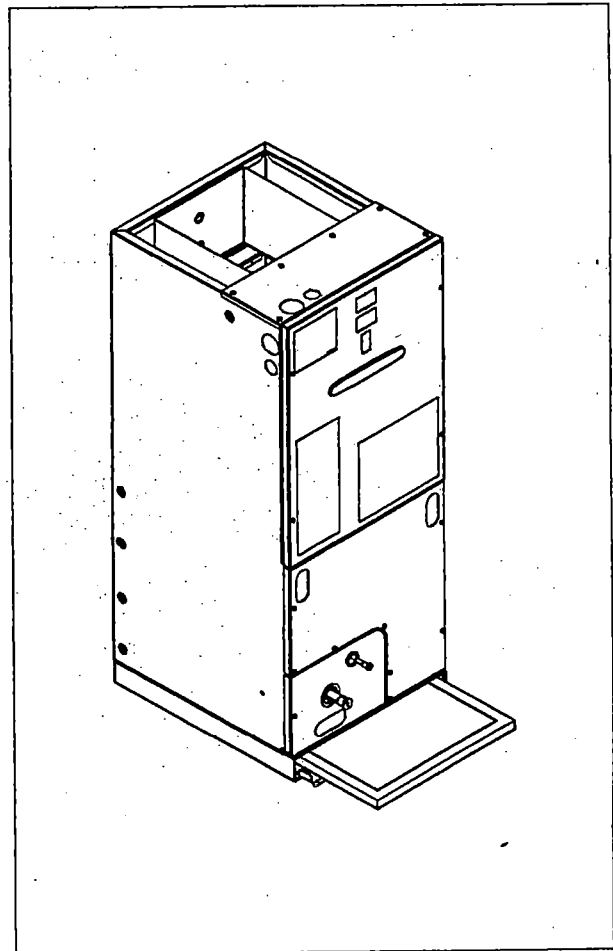

Fig. 3 - Insert filter into the frame assembly.
Step 4 - Insert the filter into the frame assembly. Check for correct air flow direction on air filter. (Fig.3)